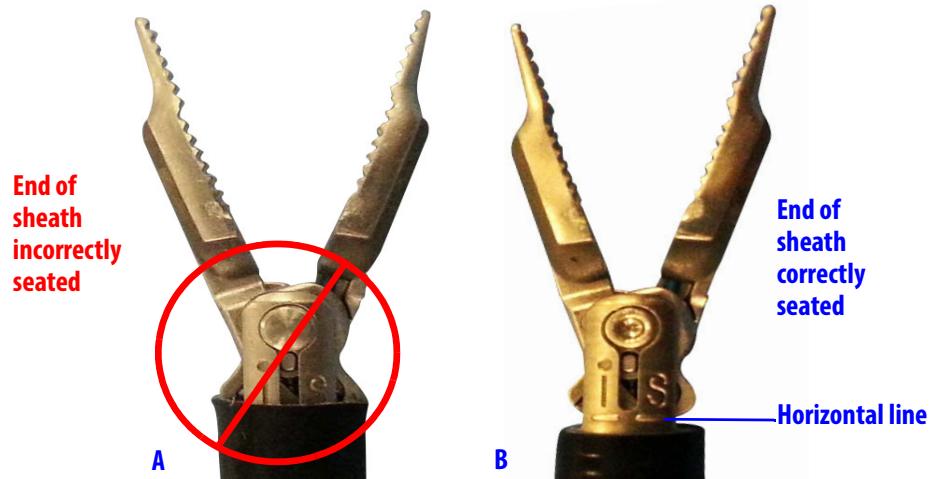

Figure 3.6 Example of incorrect (A) and correct (B) Instrument Sheath installation
- Confirm that the horizontal line below the IS logo on the instrument tip is visible just above the end of the sheath to ensure proper seating (Figure 3.6 B).